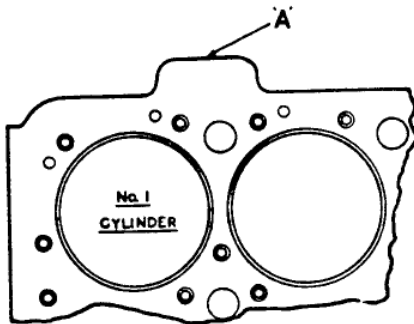
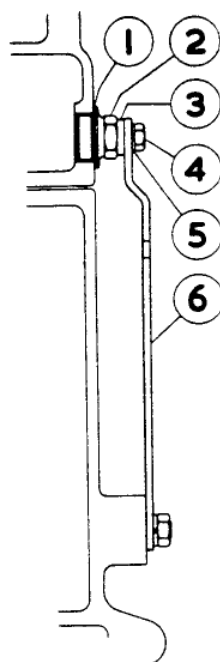

FIG. 8. SCRAP VIEW SHOWING CRANKCASE LUG ('A').
FIG.12. METHOD OF
- (vi) File back the face of the crankcase front lug, 'A' Fig. 8 and fit the stud (1) KB-751/Z as described in sub-para. (iv) of Para. 3 for Scheme 'A'.
8. METHOD OF FIXING UPPER END OF FILTER MOUNTING PLATE TO CYLINDER HEAD WHEN THE CRANKCASE FRONT LUG 'A' FIG.8 IS ABSENT (REFER TO FIG. 12.)